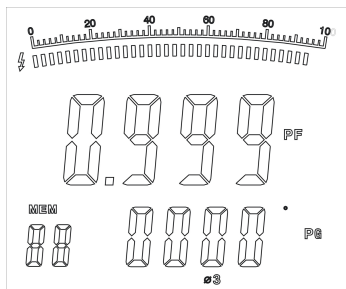

**Figure 19**
Then press **SEL** again to choose the second phase, see figure 19.
- Press **SEL** to choose the second phase , see figure 19.